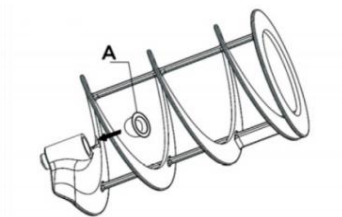

Fig.12
Put gasket (A) on stirrer.see Fig.12